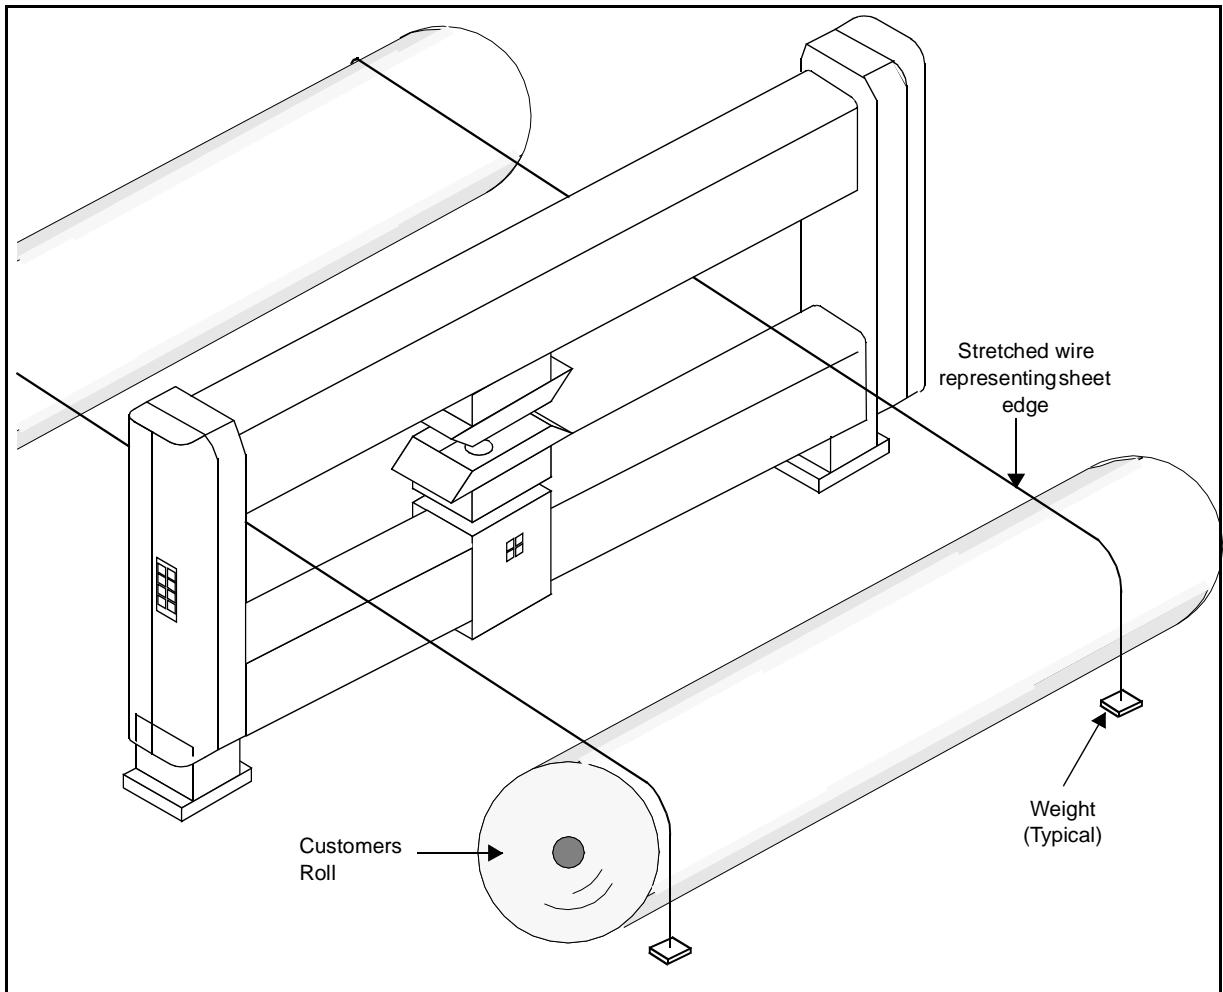

Figure 3-7 Preliminary Alignment Setup
7. Thread two parallel lengths of wire over the rolls onto which the process is to be guided. See Figure 3-7 on page 39.
16. Rethread the two parallel lengths of wire over the rolls onto which the process is guided. See Figure 3-7 on page 39.